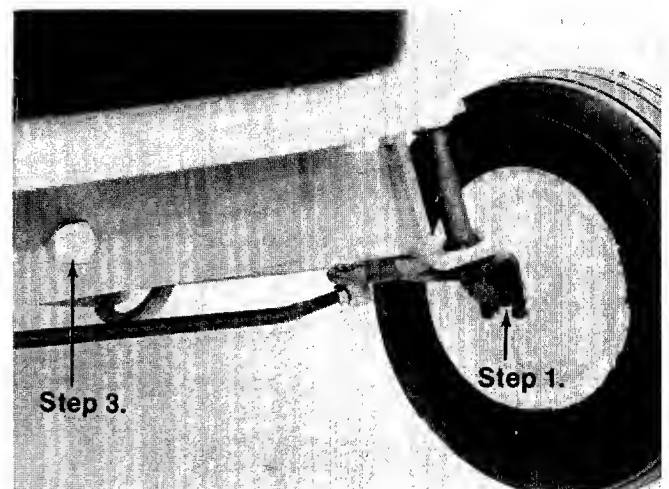

FIGURE 22.
1. Front Wheel Bearings (4)—Lubricate with SAE 30 oil once a season or after every 25 hours of operation. See figure 22.
3. Pivot Bolt—Lubricate with SAE 30 oil once a season. See figure 22.